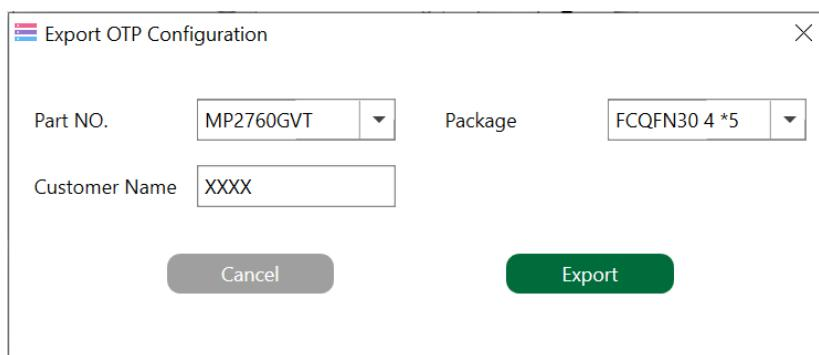

Figure 13: Export the Fully Populated Table
- Click “Export” to export the selected configurations (see Figure 13).